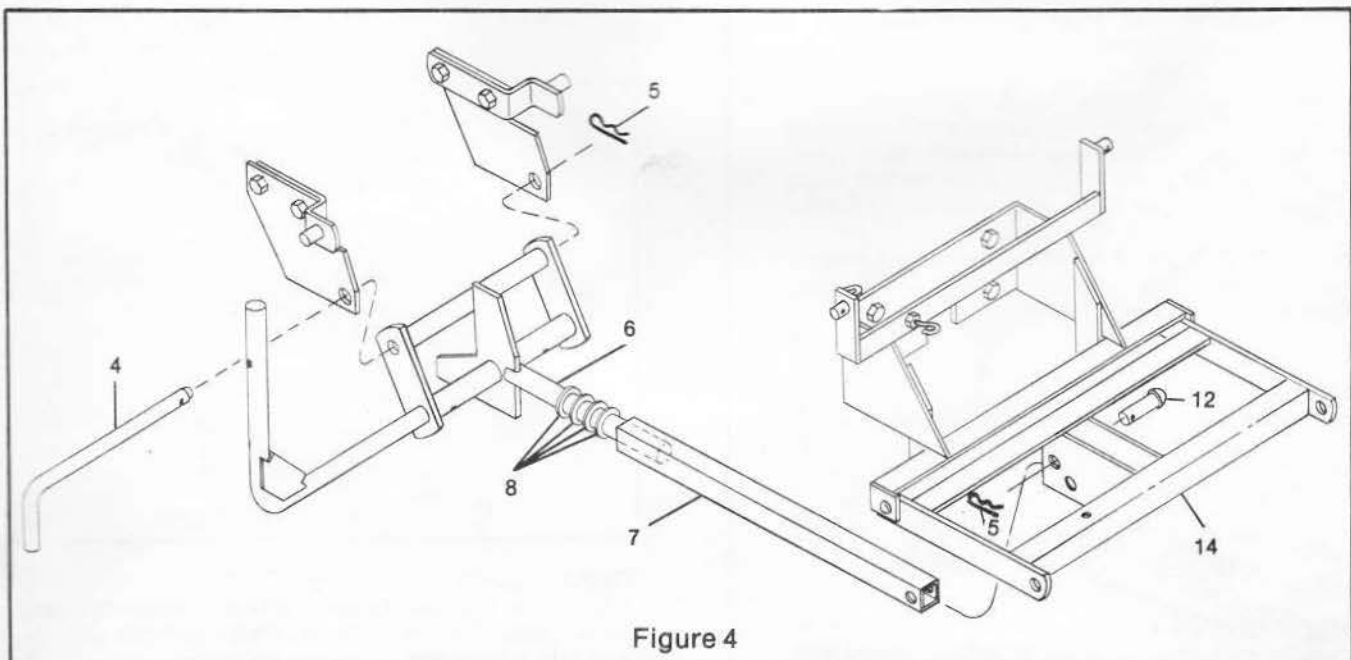

Figure 4
STEP 5 (Figure 4)
- A.) Assemble four washers (8), furnished in parts bag, and lift bar (7) onto lift lever rod (6) as shown in Figure 4.
- B.) Place lift assembly/lift bar (6 & 7) under Tractor with lift bar (7) towards front and lift assembly (6) towards rear of Tractor.
- C.) Raise lift assembly (6), locating it between rear mount brackets (1) and align holes, Figure 4.
- D.) Insert mount rod (4) through holes and secure with hair pin (5) furnished in parts bag, Figure 4.
- E.) Raise lift bar (7) locating it between bracket of front lift mechanism (14) and align holes. Figure 4.
- F.) Insert clevis pin (12) and secure with hair pin (5) furnished in parts bag.